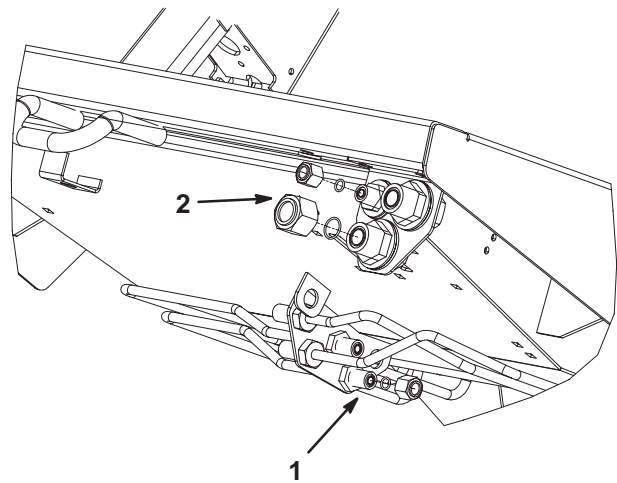

Figure 2
3. Disconnect the wing deck lift cylinder hydraulic hoses from the hydraulic ports on the traction unit (Fig. 2). Cap unused ports and plug unused hoses.
4. Disconnect the wing deck motor hoses from the hydraulic ports under the traction unit platform (Fig. 2). Cap unused ports and plug unused hoses.